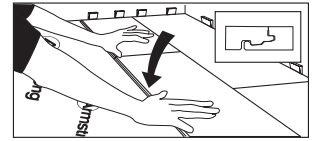

Figure 16
- Mark the last piece, cut and install. After all boards in the row are installed, press or walk all boards flat to the subfloor to begin the next row (Fig. 16).